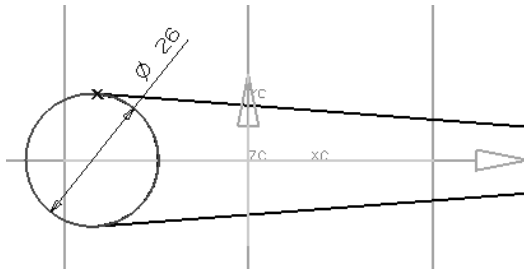

Figure 8-62 Sketch for the second feature
1. Draw the sketch shown in Figure 8-62 on the **XC-YC Plane**.